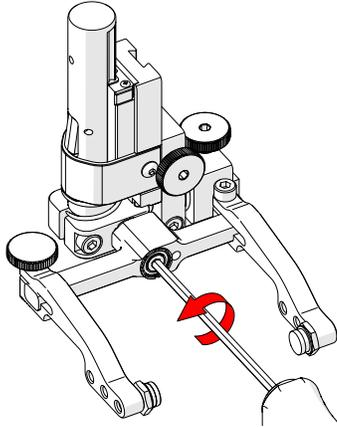

Fig. 139 - Unscrew yoke pivot screw
2. Using the supplied 3 mm hex driver (Fig. 42), unscrew the yoke pivot screw and remove yoke (Fig. 139).